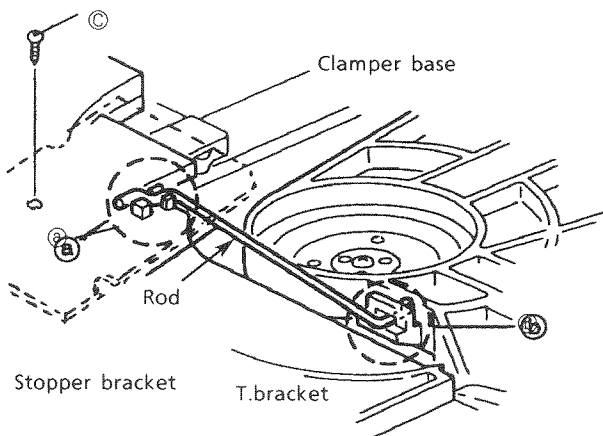

Fig. 27
2. Remove the screw ③ holding the stopper bracket.(See Fig.27) ---- (U.S.A only)
3. Remove the rod from both ends' hooks which are secured on T.Bracket ② and clamber base ①.[See Fig. 27)